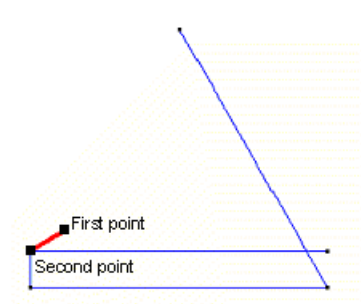

Figure 5. The line segment selected is the translation vector.
- 3 . In the **Copy** window, choose **Lines** from the **EntitiesType** menu and **Translation** from the **Transformation** menu. The translation vector for the translation to be made is the line just created. As the first point of the translation, select the point farthest from this line segment. For the second point, select the other point of the line (Figure 5). To select an existing point, you must change the "No Join / Join" option located in the contextual submenu from mouse menu or use the shortcut (Ctrl-a), notice that the cursor change from a cross to a box.